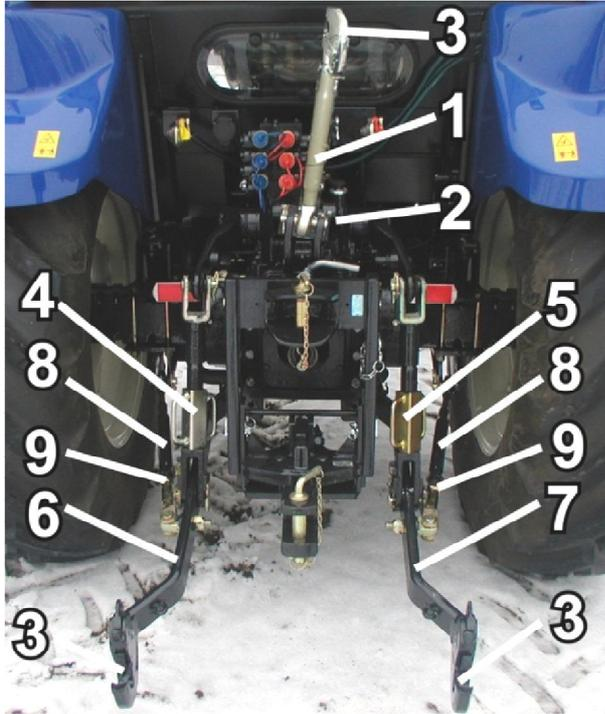

Fig. 4.6.1. Three-point linkage
The tractor hydraulic lift system with three-point linkage (see Fig. 4.6.1) facilitates control of implements and machines from operator's place.
- move back the tractor to the implement aligning the ends of lower links (3 - Fig. 4.6.1) with the implement hitch pins,
- depending on the implement, attach the top link (2 - Fig. 4.6.1) to a selected hole of the lift rocker and then to the implement cross shaft adjusting its length as necessary,
- adjust the stabilizer bars for side swing (Fig. 4.6.1),
To lengthen or shorten the stabilizers use tube nut (8 - Fig. 4.6.1) with handle.
After setting length of both stabilizers secure the nut with lock nut (9 - Fig. 4.6.1).
Apart from the three-point hitch (Fig 4.6.1), the machines and implements can be attached to: